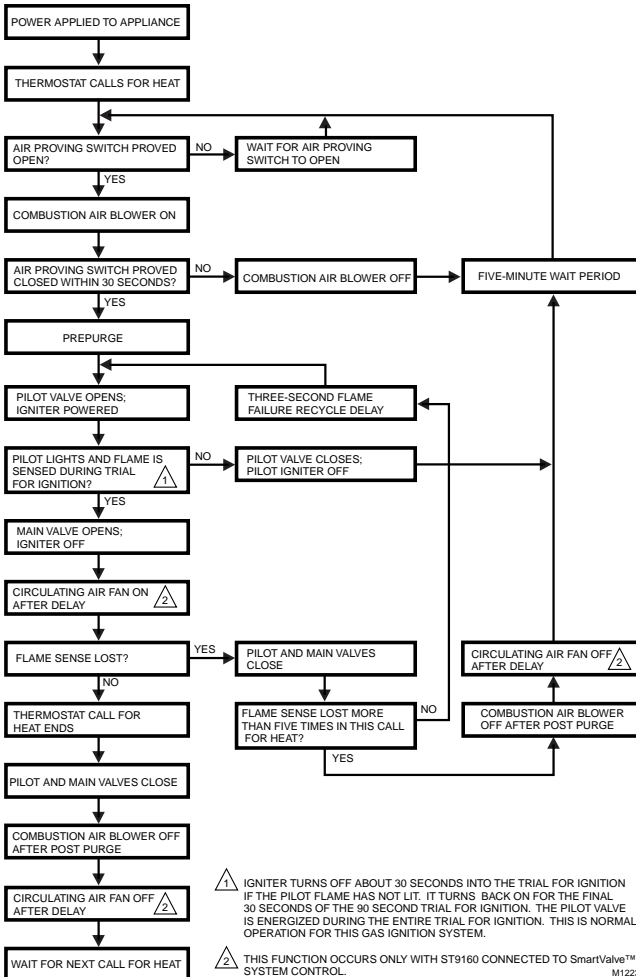

Fig. 12. SV9540; SV9640 sequence of operation.
2. Follow the sequence of operation as shown in Fig. 12.
5. Observe the ignition sequence, comparing it to the Sequence of Operation shown in Fig. 12. Allow the new ignition sequence to proceed until appliance lights or an abnormal or unexpected event is observed. See next section.
6. Observe the appliance operation, comparing it to the Sequence of Operation shown in Fig. 12. Allow the ignition sequence to proceed until the appliance lights or an abnormal or unexpected event is observed.